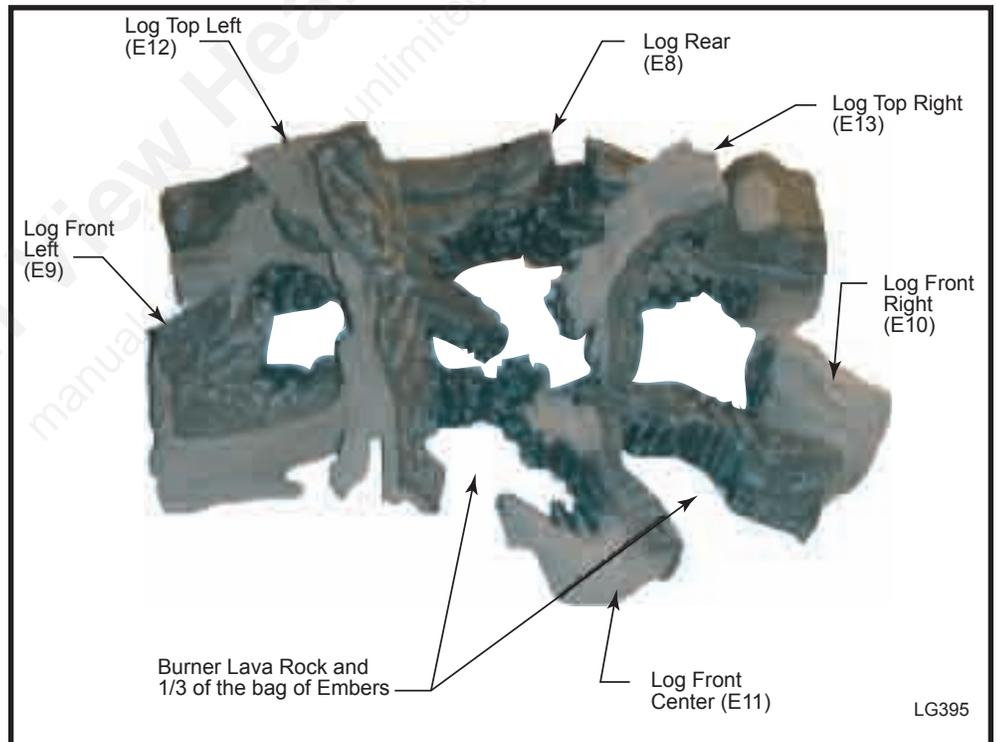

Fig. 55 DV580 log, burner lava rock and ember placement.
1. Place rear log (E8) on rear bracket (ensure the notch on the left end is centered on the left side of rear bracket), so it will not move from side to side and is firmly positioned on the bracket. Be sure log is as far forward as possible on bracket. (Fig. 55)